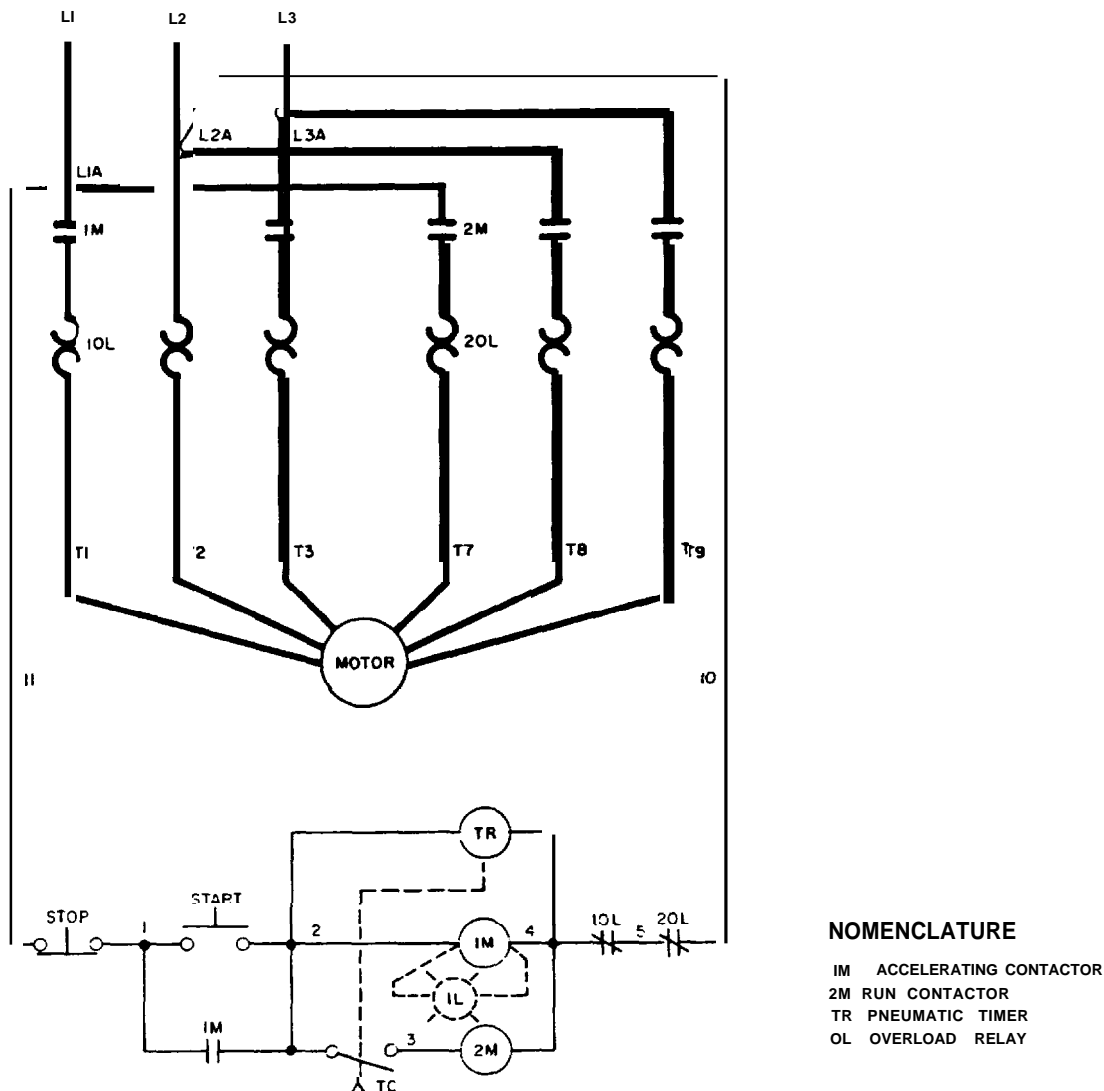

Figure 5-7. Part-winding starter.
(3) *part-winding starters.* These are used with squirrel cage motors having two separate, parallel stator windings (fig 5-7). The motor is started on one winding through accelerating contactor "IM" at